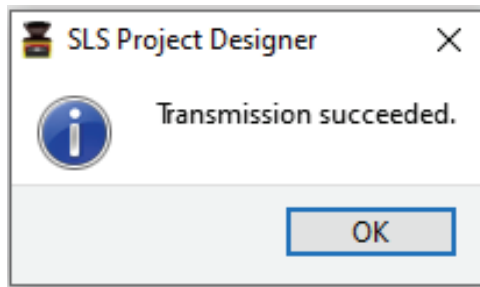

Figure 7-61 Transmission complete window
- h) Dialog box as shown in Figure 7-61 will appear. Click OK to complete the save.